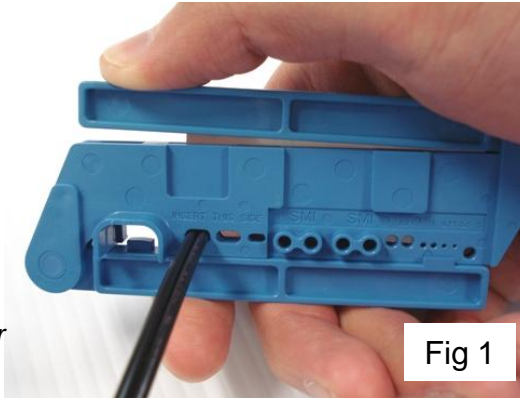

Fig 1
- If necessary, use the tool to cut the plastic optical fiber evenly as shown in Figure 1.